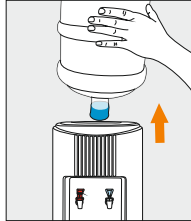
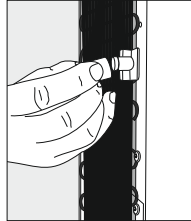
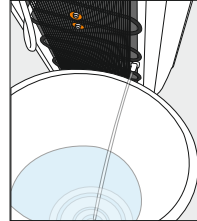

Figure 29
Figure 30
Figure 31
2. Remove the water bottle (Figure 29) and drain water from the reservoir and hot tank, remembering to cool and drain hot tank. Allow 1 hour for hot water to cool down inside the hot tank before removing the drain plug at the rear of the cooler to drain into a bucket (Figure 30 and Figure 31).